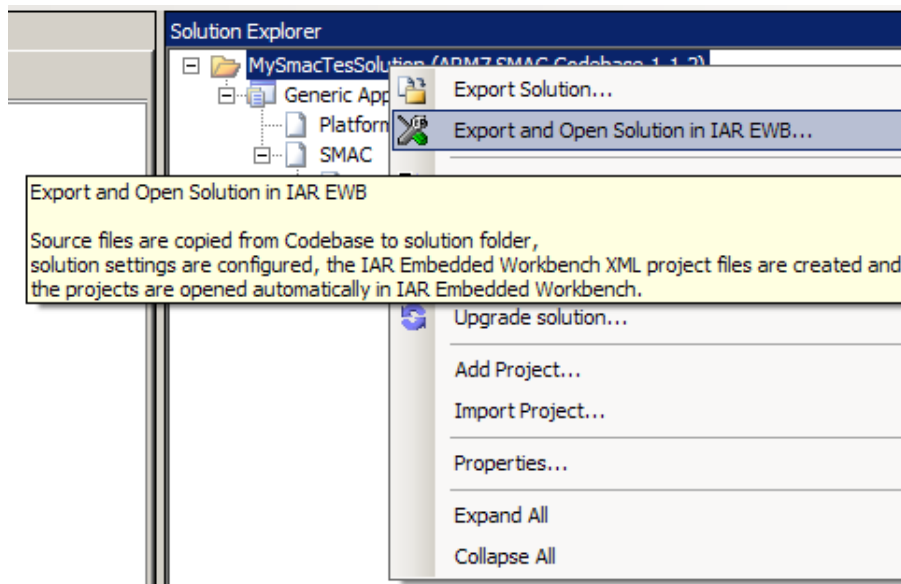

Figure 1-6. Exporting a Solution
- Users must now export the solution as shown in Figure 1-6.